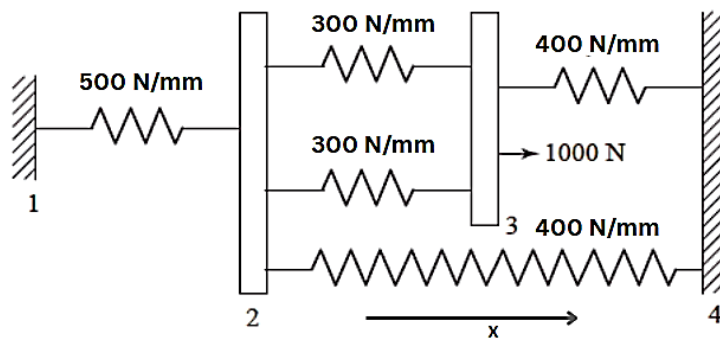

Figure Q1: Spring assemblages
a) **Figure Q1** illustrates a spring system consisting of linear elastic springs arranged in a combination of series and parallel configurations. The system includes five springs with the following stiffness values: